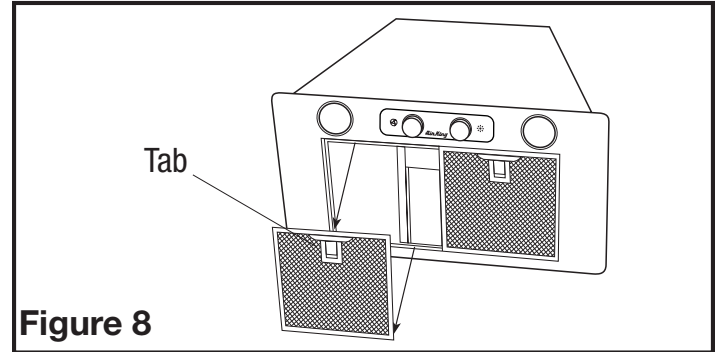

Figure 8
2. To remove the filters, pull down on the handle tab until the filter releases from the unit. To reinstall, slide tab at rear of filter into slot in the unit. While holding in handle of filter, lift filter into place and release handle. The filter should snap securely into place (**Figure 8**).